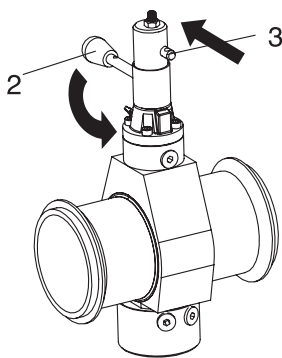

FIG. 9
6.2.2 Final testing (see fig. 9)